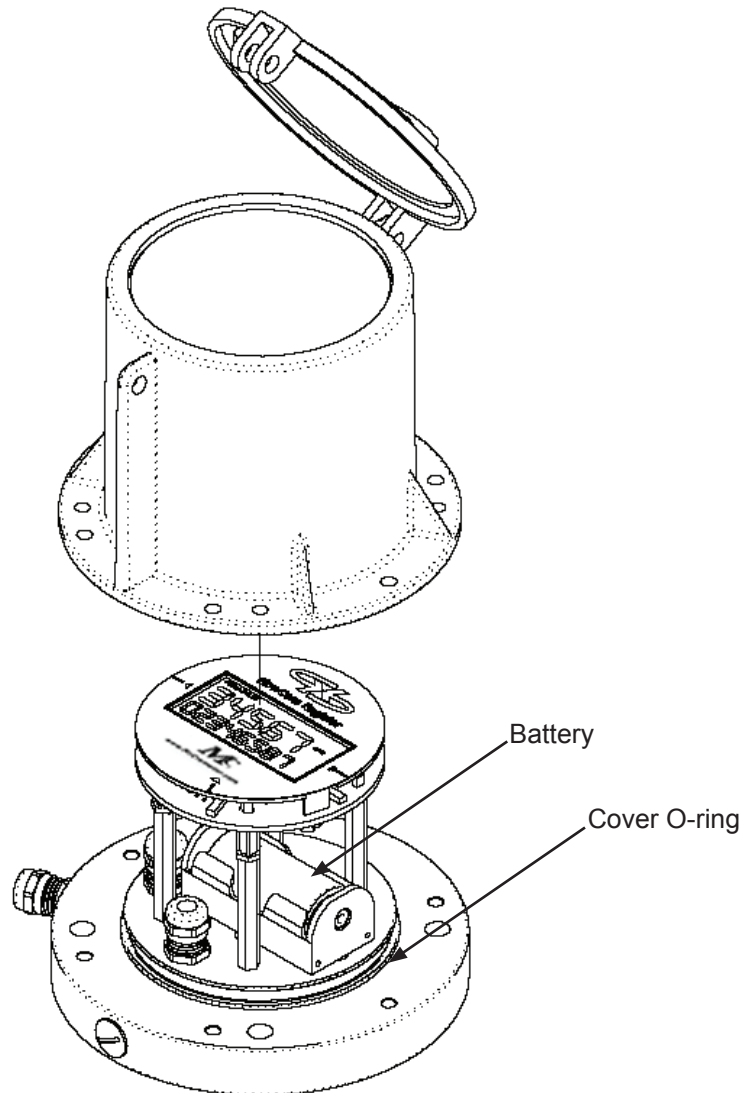

Figure 28 Canopy Enclosure Removed For Battery Replacement
- Step 8. Apply O-ring lube to the cover O-ring (Figure 28).